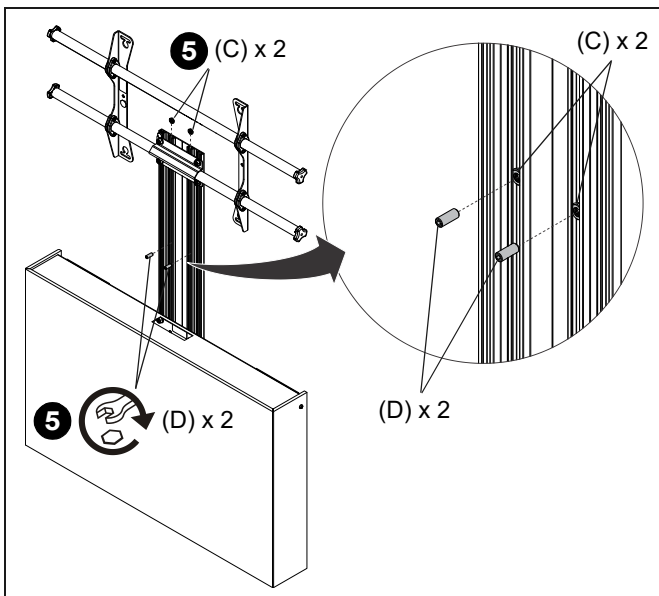

Figure 18
4. Slide two M8 nuts (C) into the inside channels shown and hold them in place below the bottom edge of the display.
5. Install two M8 x 12mm screws (D) through the M8 nuts (C). Tighten the screws to hold the nuts in place (See Figure 18)